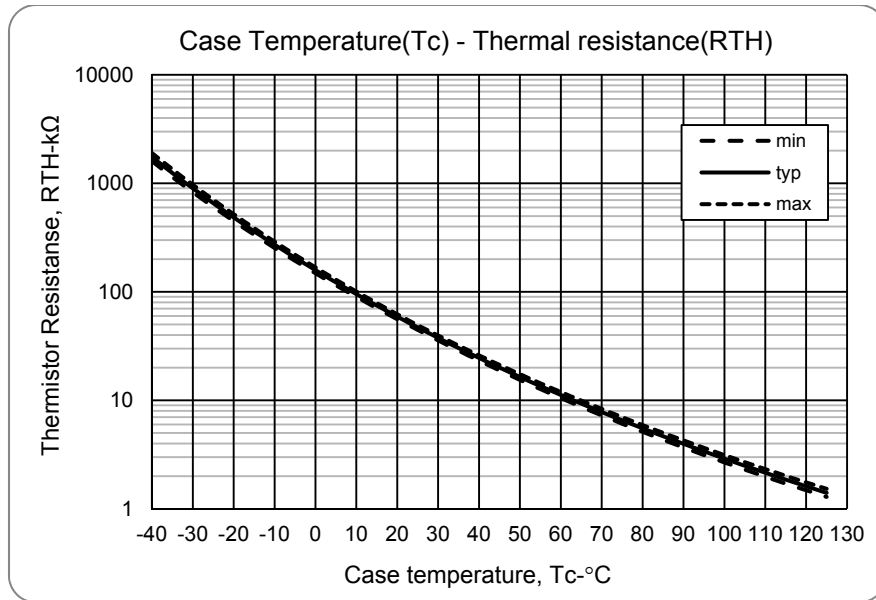
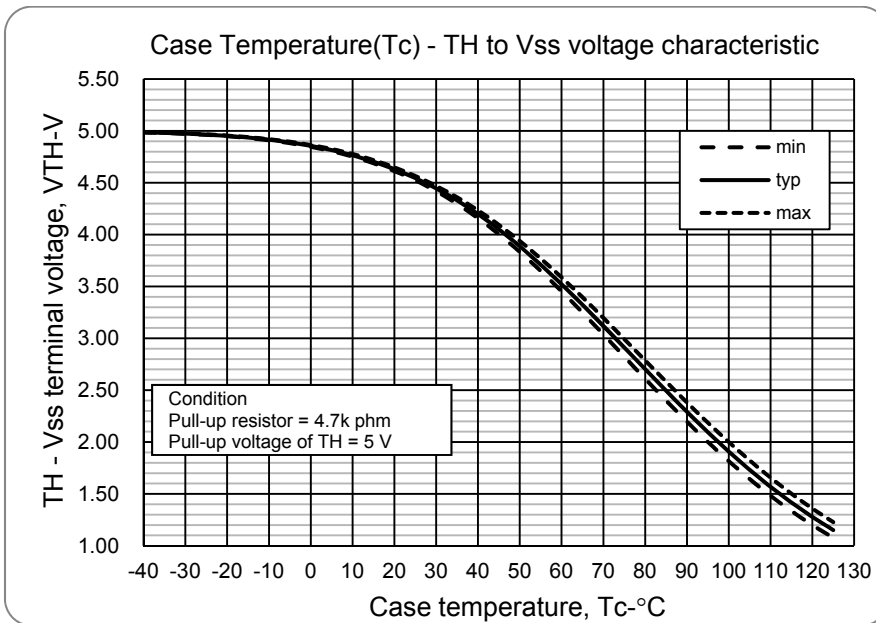

Fig.10 Variation of thermistor resistance with temperature
Fig.11 Variation of temperature sense voltage with thermistor temperature
4. Inside the IPM, a thermistor used as the temperature monitor for internal substrate is connected between V_{SS} terminal and TH terminal, therefore, an external pull up resistor connected between the TH terminal and an external power supply should be used. The temperature monitor example application is as follows, please refer the Fig.10, and Fig.11 below.